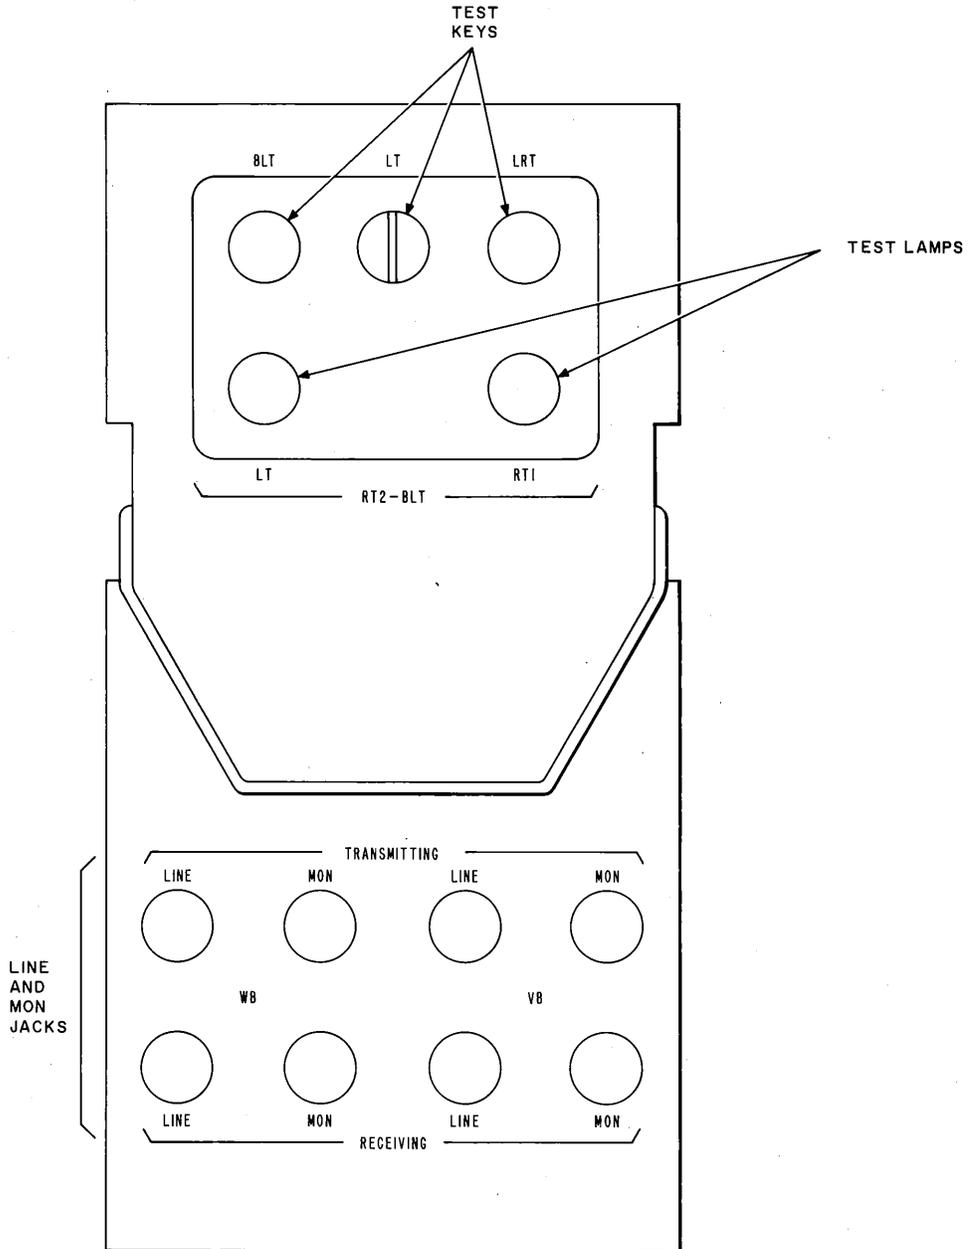

Fig. 1—10A2 Data Unit Jacks, Controls, and Indicators
20) and a data error check is made in the final test (Steps 21 through 38). Since much of the testing involves the 10A2 Data Unit, a front view is illustrated in Fig. 1.